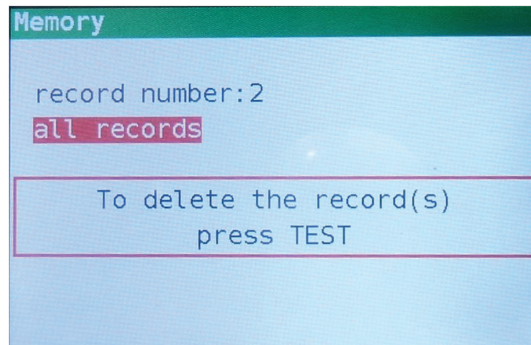

Figure 7.7: Delete screen
- Step 5** Press the **DOWN** key to select all records (Figure 7.7)